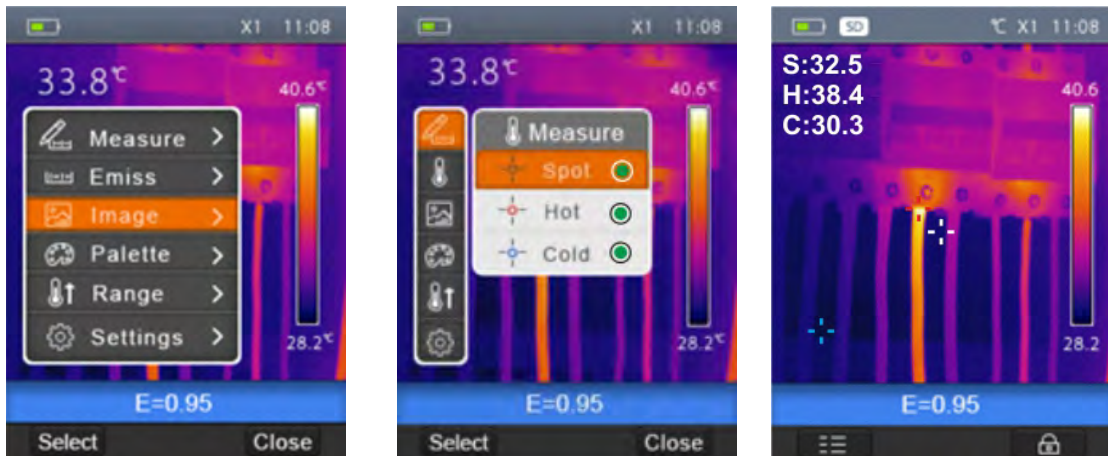

Fig. 17: Setting of measuring cursors
1. Select the item “Measurement” with the keys \oplus or \ominus and press the key . The screen Fig. 17 – Right side is shown on the display.